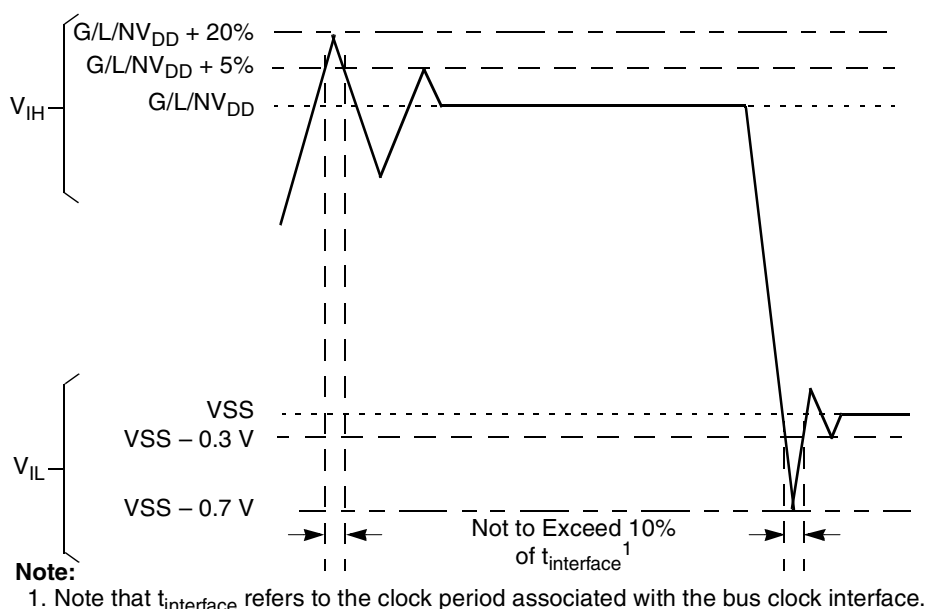

Figure 2. Overshoot/Undershoot Voltage for GVDD/NVDD/LVDD
- (M, L, O)V_{IN} and MV_{REF} may overshoot/undershoot to a voltage and for a maximum duration as shown in Figure 2
Figure 2 shows the undershoot and overshoot voltages at the interfaces of the device